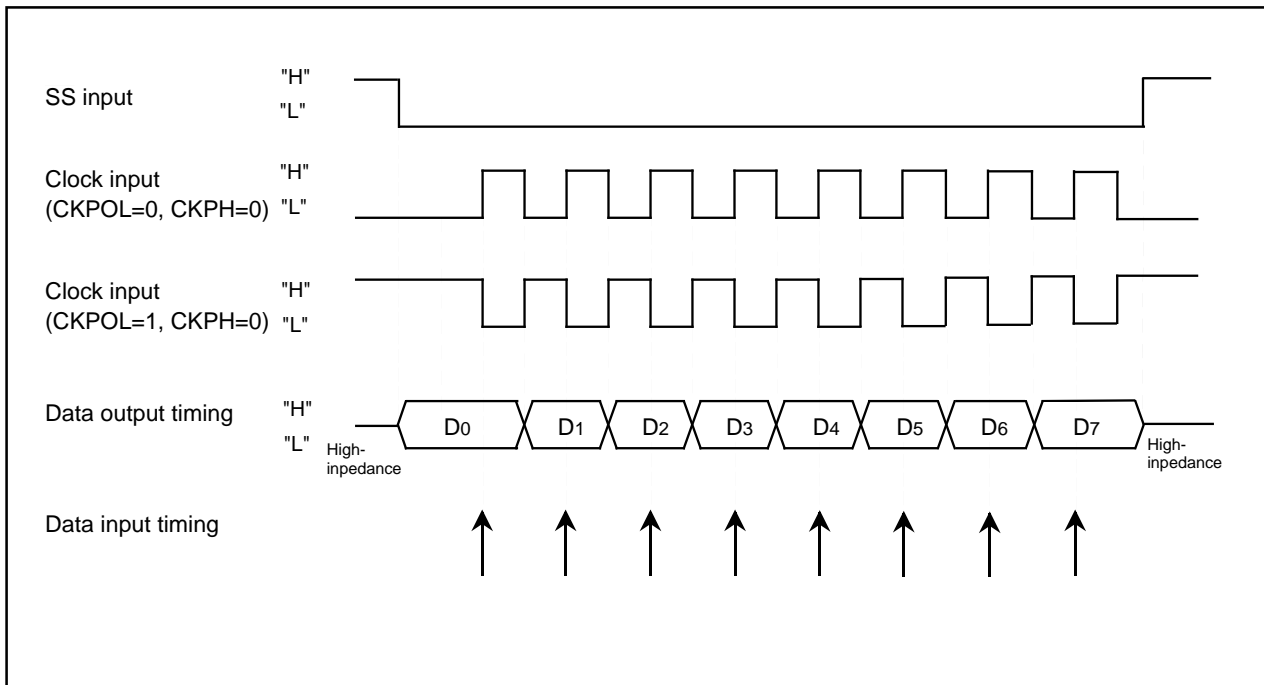

Figure 1.20.9. The transmission and reception timing (CKPH=1) in slave mode (external clock)
- With "1" for bit 1 (CKPH) of UARTi special mode register 3 (addresses 032516 and 02F516 [i = 3 or 4]), when an SSi input pin is H level, output data is high impedance. When an SSi input pin is L level, the first data is output. After that, serial transmission is synchronized with the clock. Figure 1.20.9 shows the timing.